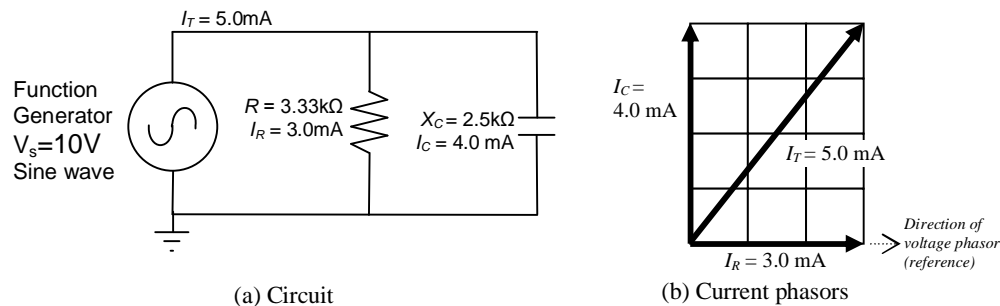

Figure 5.1: Parallel RC circuit
Consider the current phasor diagram for the parallel RC circuit shown in Figure 5.1. The current in the capacitor is shown at $+90^\circ$ from the voltage reference because the current leads the voltage in a capacitor. The current in the resistor is along the x-axis because current and voltage are in phase in a resistor.
- Draw the current phasors I_{R1} , I_C , and the total current I_T in a plot similar to that of Figure 5.1. The total current is through sense resistor R_{S1} . The current I_C is through sense resistor R_{S2} . Ignore the small effect of the sense resistors on the phasor diagram. Note carefully the direction of the phasors. Label each of the current phasors.